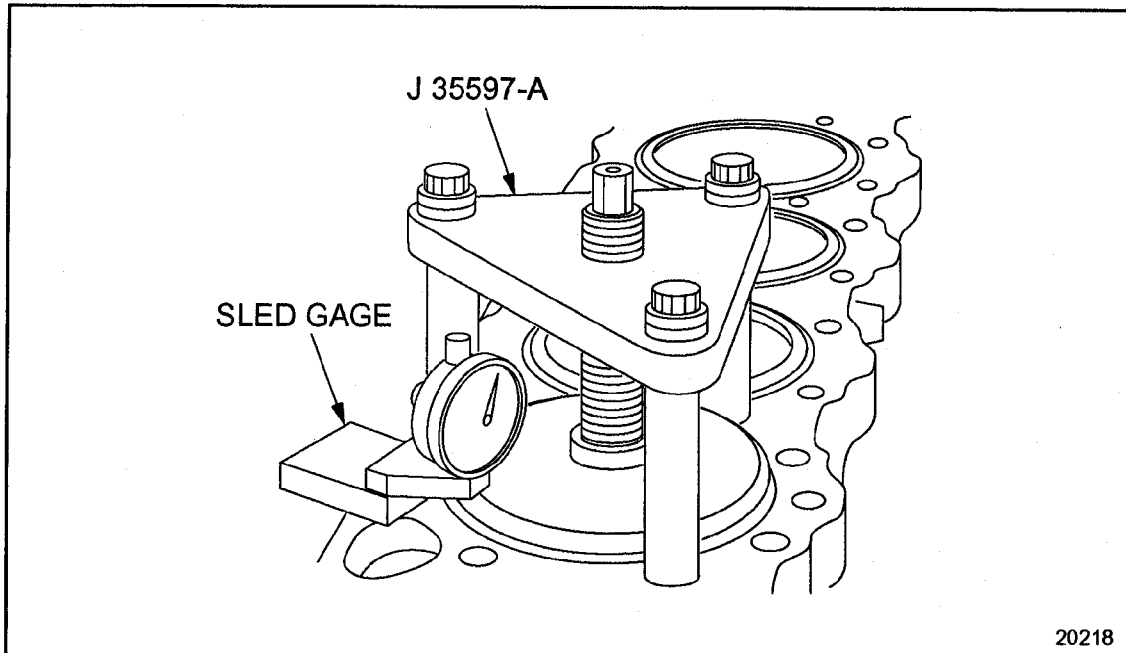

Figure 1-297 Cylinder Liner Installation Tools
5. Install J 35597, over the liner to be installed. See Figure 1-297.